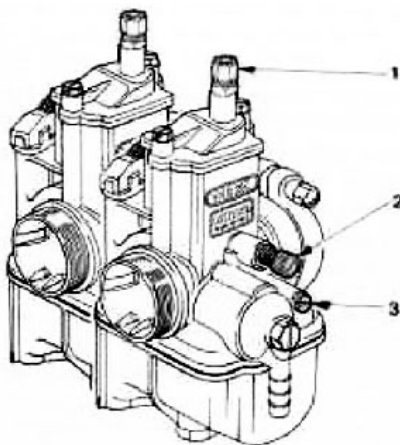
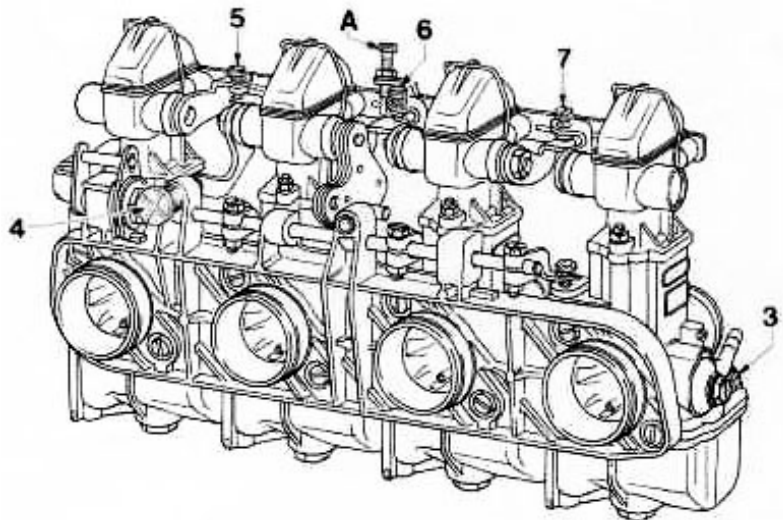

fig. 31
fig. 32
- with carburetors **separated** (**figure 31**) and the refore with a throttle cable each.
- with carburetors **mounted together** in a rigid group by means of a suitable flange (**figure 32**) and with a single control cable.
Make sure, both for independent (**figure 31**) and grouped carburetors (**figure 32**), that each throttle cable has about 1mm free play at idle.
- Unscrew each idle mixture screw (3) about two turns from the fully-closed position.
- Start the engine and when it has reached normal running temperature, adjust the idle speed to about 1000 rpm using the throttle adjusting screw (2) in **figure 31** or screw (4) in figure 32.
- Or independent carburettors (**figure 31**) align the mercury column levels using the throttle adjusting screws (2) on each carburettor.
- For carburettors mounted together in a group (**figure 32**) align the mercury column levels with the level of the carburettor connected directly to the throttle control, adjusting the balance- adjusting screws (5), (6), (7).
- Then adjust the mixture screws (3) of each carburettor to obtain the fastest even running.
- Recheck the alignment of the mercury columns and then reset the engine to the desired idle speed using the throttle adjusting screw (2) in figure 31 or screw (4) in figure 32.
- For independent carburettors (**figure 31**) check that the alignment of the mercury columns is unaffected by slightly opening the throttle. If it is, adjust the individual cable-adjuster screws (1) to correct this.